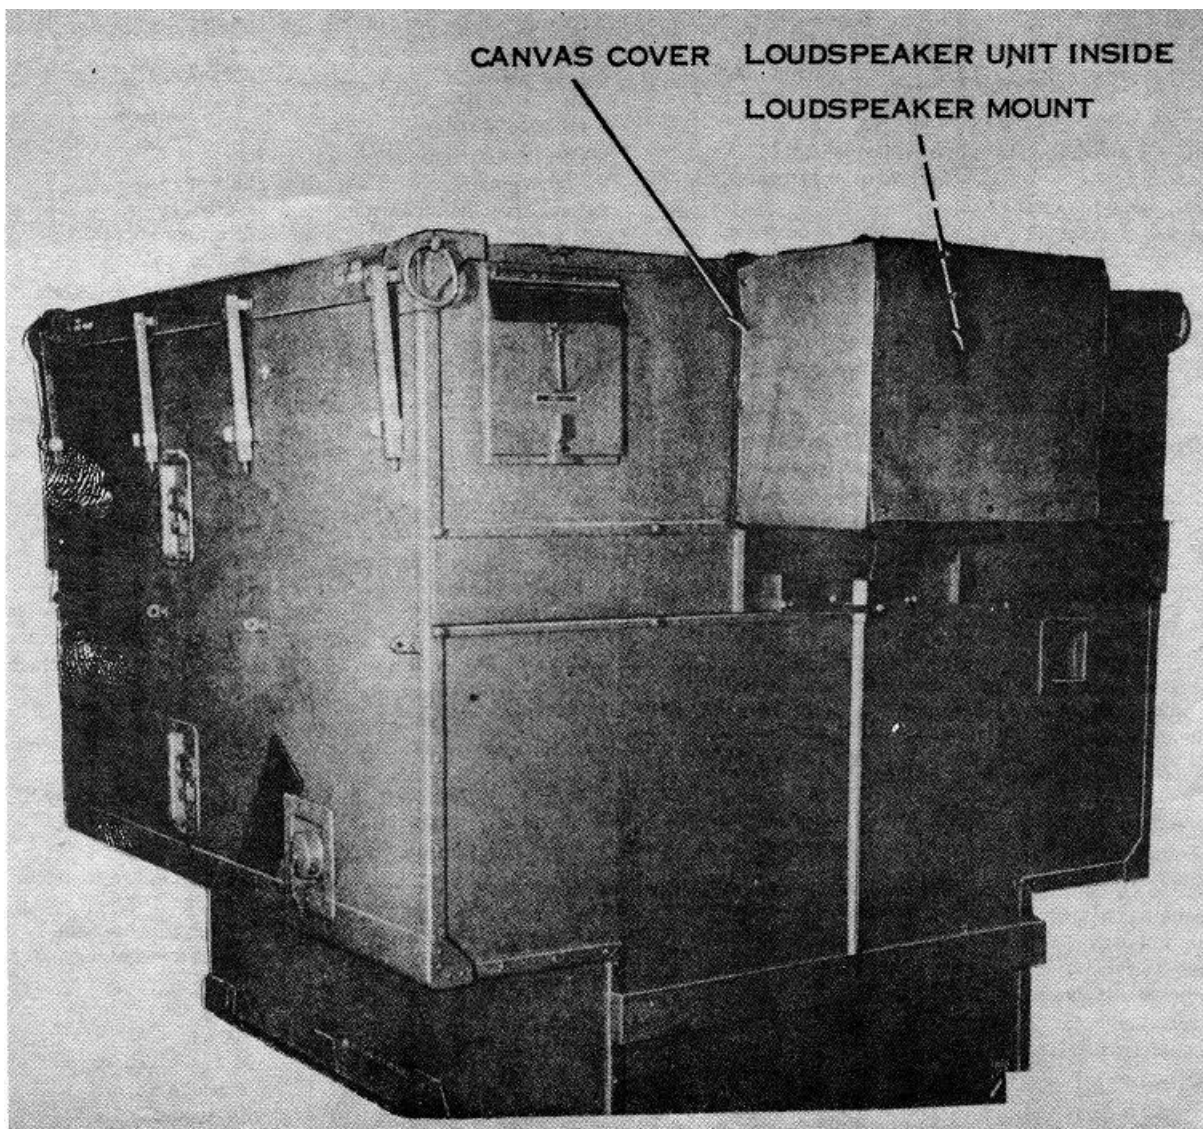

Figure 1-3. Shelter, Electrical Equipment S-138/G (Modified), front view.
(7) *Loudspeaker mount.* The loudspeaker mount (fig. 1-1) is provided to mount the loudspeaker unit of the PA set. A canvas dust cover protects the loudspeaker when it is not being used (fig. 1-3). The loudspeaker may be operated either with the front clasp of the canvas cover open, or with the entire canvas cover removed from the mount.
(4) A 2- by 4-inch board is bolted to the base of the front wall on the outside of the shelter (fig. 3-1) to provide clearance between the shelter and the truck bed. The space provides room for the aft of the loudspeaker between the shelter and the body of the truck bed when the loudspeaker is fully lowered into its mount (fig. 1-3).
(5) Tarpaulin brackets are installed on the outside of the shelter.
b. PA Set. Fixed mounting bracket AEM-MB1 (TM 11-5830-240-15) is not included with the PA set. The shaft mounting and locking portion of the AEM-MB-2 has been altered and integrated into the loudspeaker mount on the front of the shelter (fig. 1-3). The hollow mounting shaft of the loudspeaker unit has been removed and replaced by a solid shaft approximately 12 inches longer, which is welded to the upper section of the mounting bracket. A remote control mounting bracket (thumbscrew installation) is provided to enable the PA set remote control unit to be mounted in the truck cab. The output of the tape recorder may be applied to the PA set with a